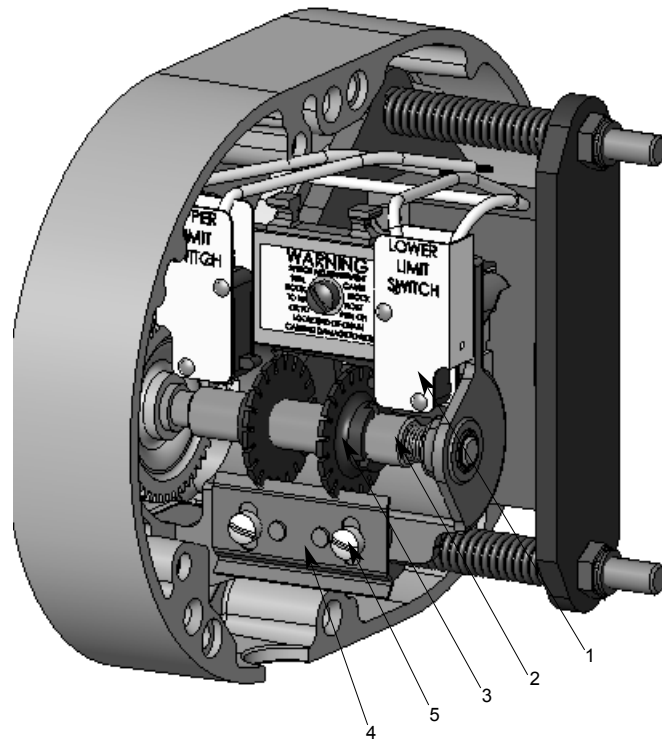

Figure 16. Limit Switches, Models A thru H-2
- Loosen the screws to permit guide plate to be moved out of engagement with the traveling nuts, refer to Figures 16 and 17.